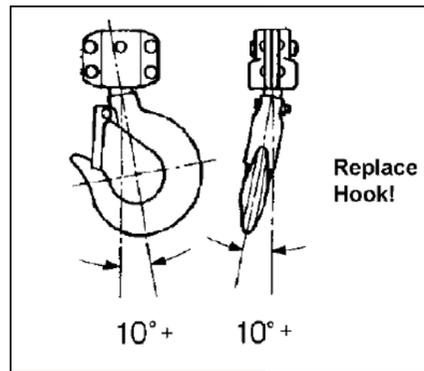

FIG 2
8. If the vertical angle at the neck of the bottom or top hook reaches  $10^\circ$  per FIG 2, replace the hook.